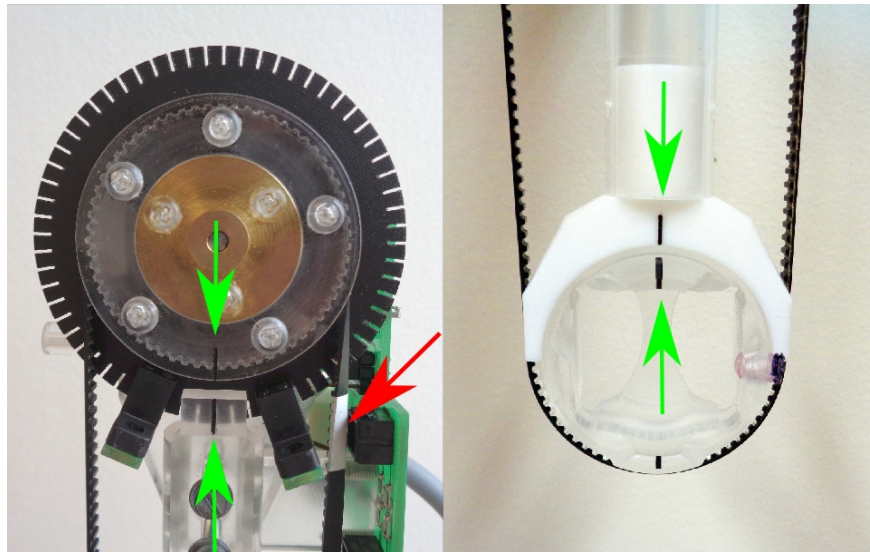

Figure 4: Position marks
- Proper position of all three position marks are shown in Figure 4.